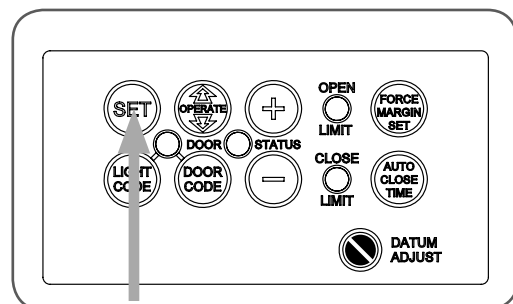

fig 39
- Press and hold the SET Button for two (2) seconds, the beeper will sound once (**Fig 39**).
- The door will start to move and re-calculate force margins. The door can move between the open and close limit positions up to four (4) times (depending on the position of the door and the power up condition).